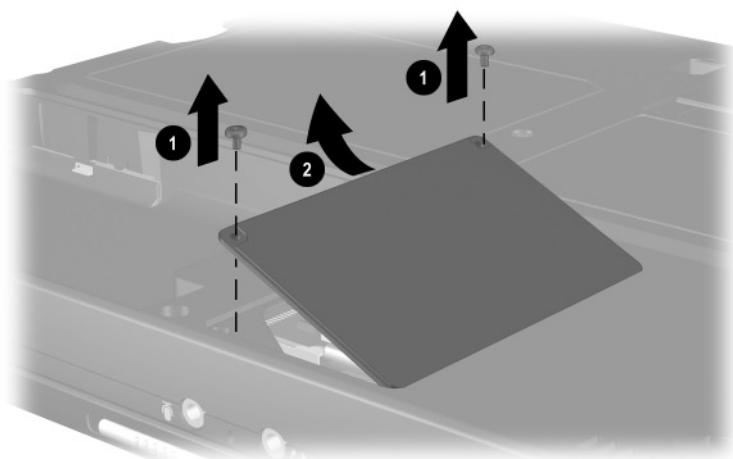

Figure 5-7. Removing the Mini PCI Compartment Cover
3. Remove the two PM2.5 $\times$ 5.0 screws ❶ that secure the mini PCI compartment cover to the base enclosure (Figure 5-7).
4. Lift the left edge of the cover and swing it up and to the right ❷.